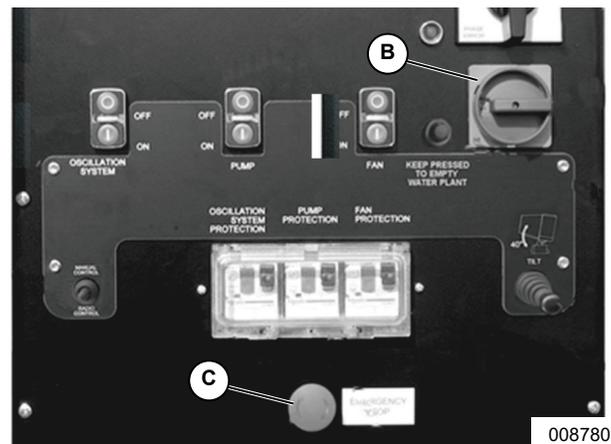

Figure 2-8. Emergency Stop Button
2. See **Figure 2-8**. Verify input switch (B) is in the OFF position.
3. Verify emergency stop button (C) is in the OFF/armed position. If the emergency stop button is engaged, twist the emergency stop button clockwise to release.